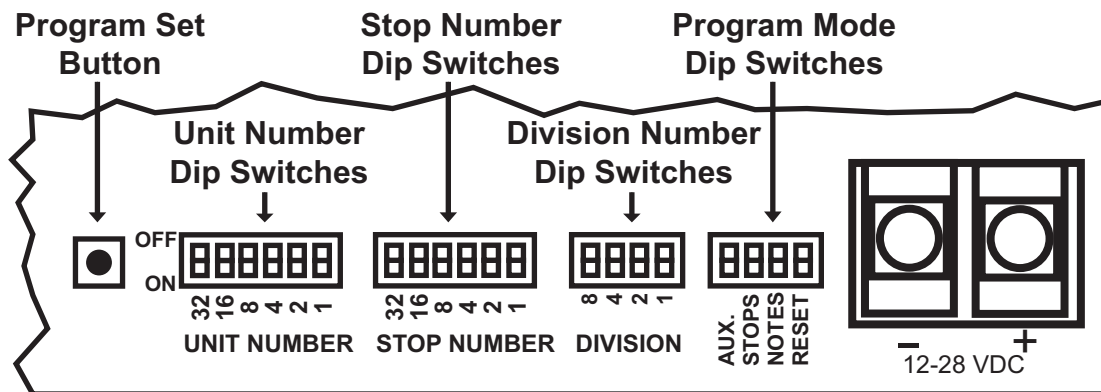

FIGURE 4.4 "DRIVER BOARD PROGRAMMING DIPs"
2. On the Program Mode Dip Switches, see figure 4.4 "Driver-Board-Programming-DIPs," set the NOTES switch to ON (closed). The AUX., STOPS and RESET Switches must be OFF (open).
3. (optional) To clear all Note memory set the RESET switch to ON and press the Program Set Button, see figure 4.4 "Driver-Board-Programming-DIPs." Set the RESET switch to OFF, wait approximately 5 seconds for the Note memory to be erased and then proceed to the next step.
4. Set the Division Number Dip Switches, see figure 4.4 "Driver-Board-Programming-DIPs," to equal the division number that the Stop is in (Pedal/Division-1; Great/Division-2; Swell/Division-3 and Choir/Division-4 ...).
5. Set the Stop Number Dip Switches, see figure 4.4 "Driver-Board-Programming-DIPs," to desired Stop number.
6. Set the Unit Number Dip Switches, see figure 4.4 "Driver-Board-Programming-DIPs," to the desired Unit number. For a list of Note Unit Numbers see table Tables 4.3 and 4.4 "Notes Unit Types A and B" on pages 4-7 and 4-8.